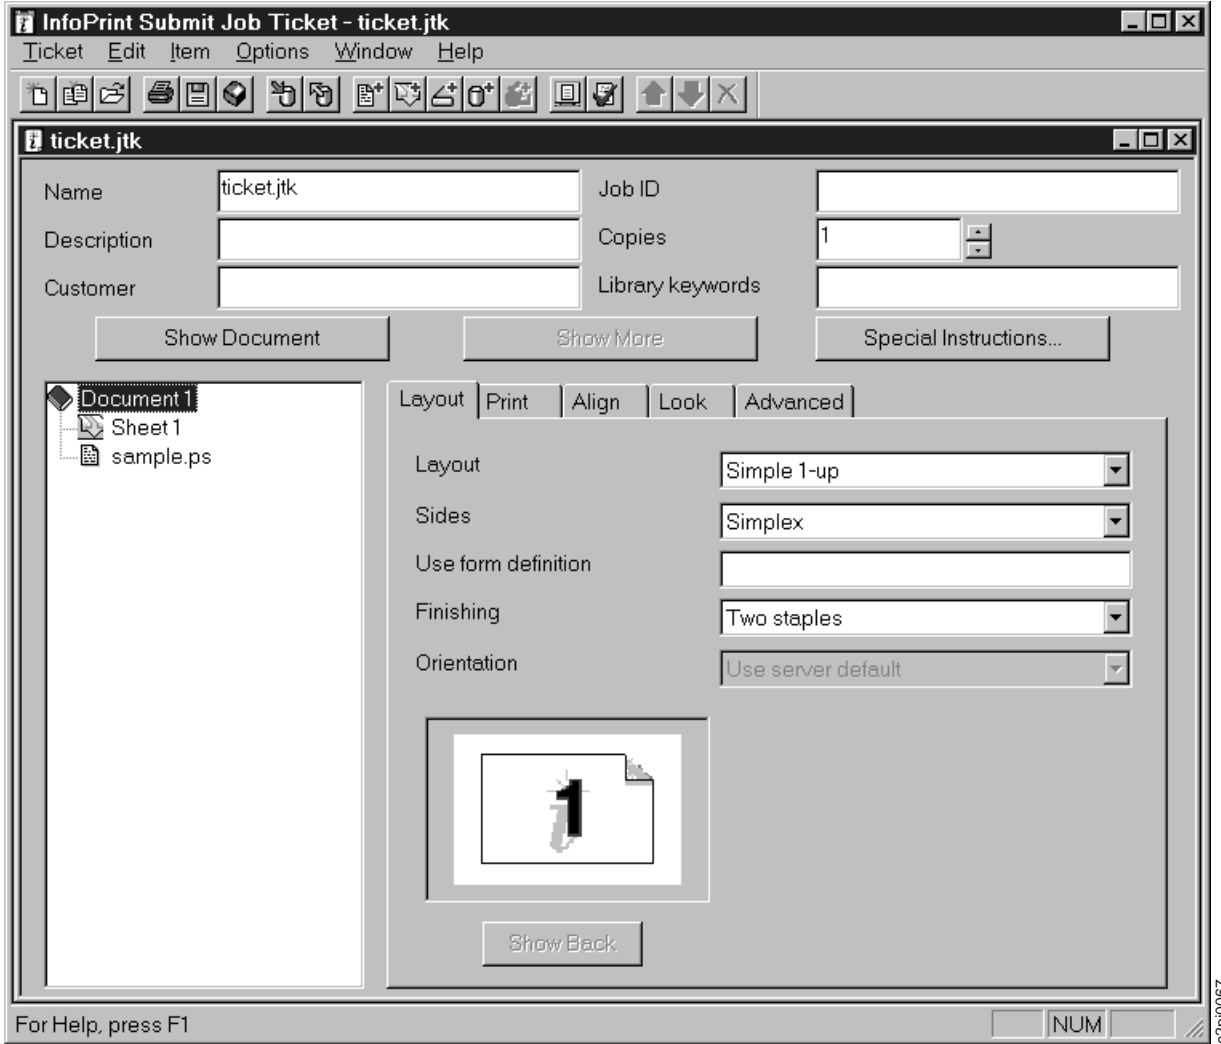

Figure 33. Edge-Stitched Document with Front Cover - Layout Tab
1. From the InfoPrint Submit Job Ticket window (Figure 33), insert the sheets and files to be printed or finished:
2. Select the "Layout" tab. You see Figure 33.